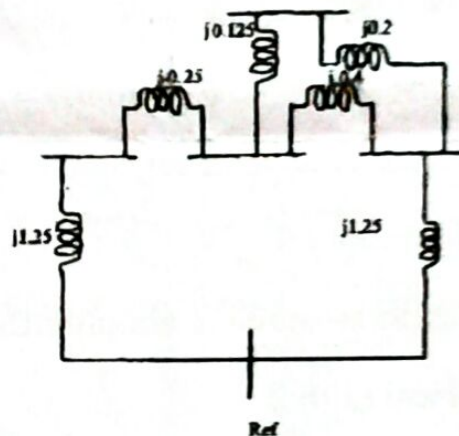

Figure 2
- b) Determine Z-bus for system whose reactance diagram is shown in given figure 2 where the impedance is given in p.u. preserve all the nodes. (13)